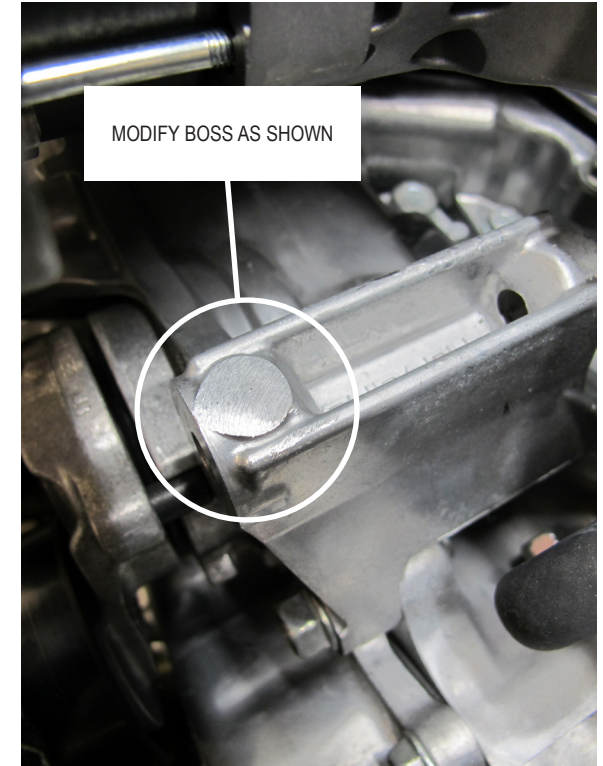

Fig. 3A
- A. Remove the two 12mm alternator screws. Unclip the alternator harness support from the support bracket & set alternator aside. Modify (file or carefully grind) the OEM alternator bracket boss. See Fig. 3A.